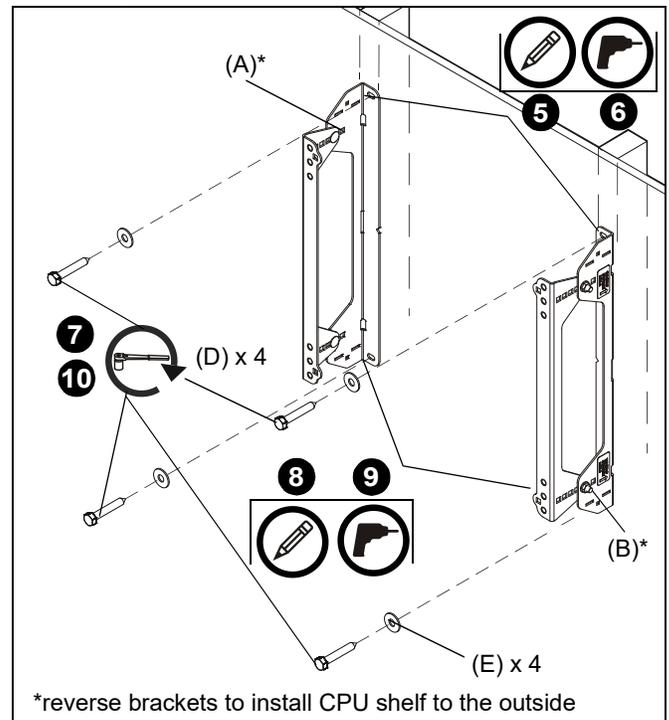

Figure 2
5. Using a level, mark the wall on each stud to attach the brackets through the upper mounting slots. (See Figure 2)
7. Use two 5/16 x 2-1/2" lag bolts (D) and two 5/16" flat washers (E) to attach top of brackets (A and B) to wall. (See Figure 2)
NOTE: If desired CPU location is off to the side of the display, reverse brackets (A and B) from how they are shown in Figure 2.
8. Mark the attachment points for the lower mounting slots, making sure the attachment points are located on the studs. (See Figure 2)
9. Drill 7/32" (5.5mm) pilot holes at markings for lower mounting holes. (See Figure 2)
10. Use two 5/16 x 2-1/2" lag bolts (D) and two 5/16" flat washers (E) to attach the accessory to the wall through the lower mounting holes. (See Figure 2)